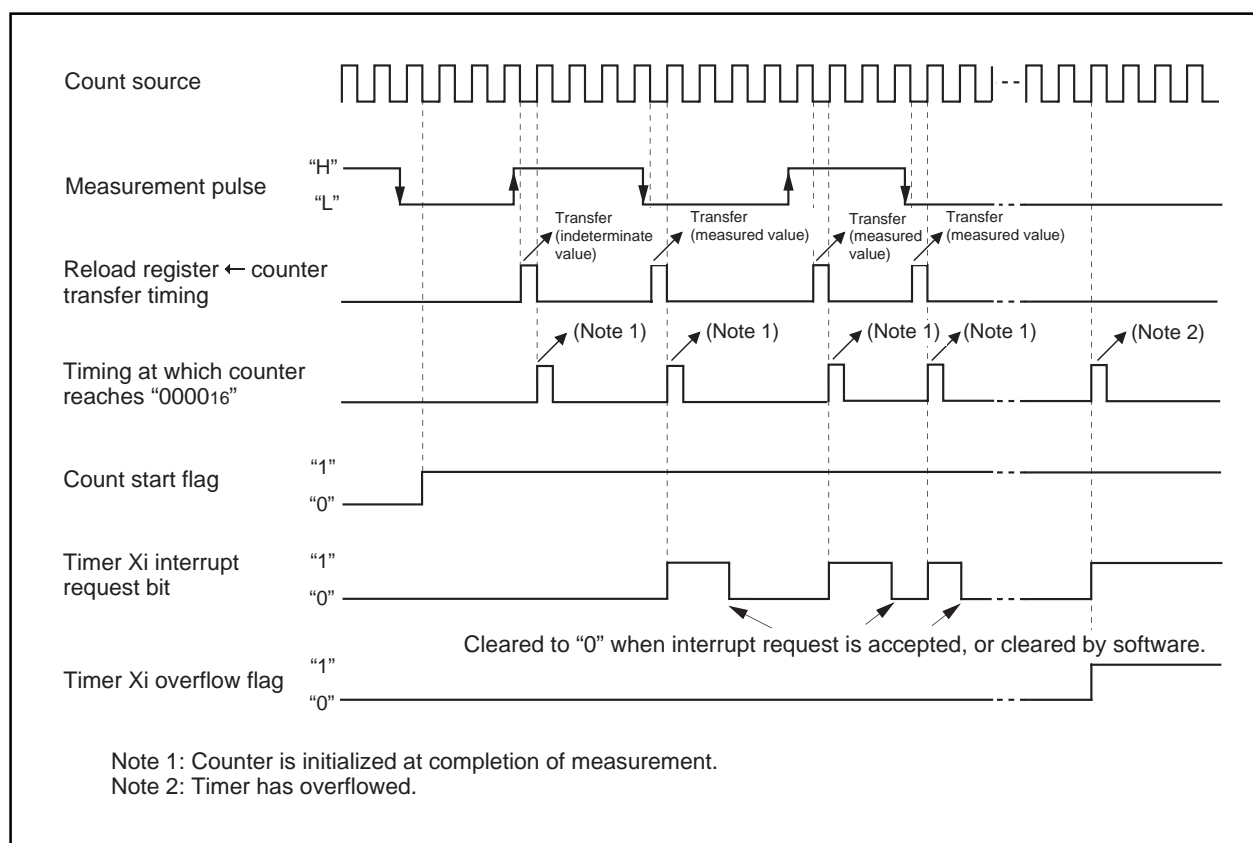

Figure 1.65. Operation timing when measuring a pulse width
1.64 shows the operation timing when measuring a pulse period. Figure 1.65 shows the operation timing
The clock synchronous serial I/O mode uses a transfer clock to transmit and receive data. (See Table 1.26.) Figure 1.65 shows the UART0 transmit/receive mode register.